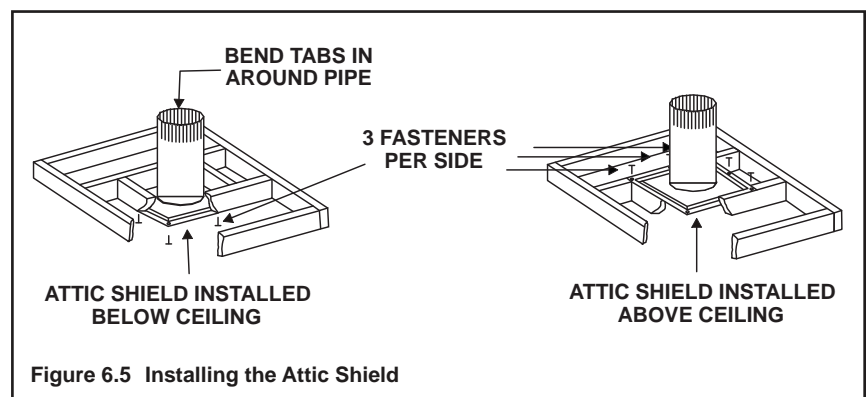

Figure 6.5 Installing the Attic Shield
- Attic shield may be installed above or below ceiling (see Figure 6.5).